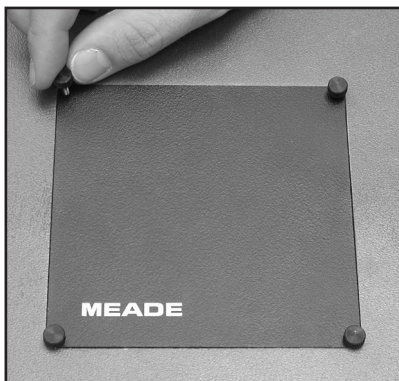

Fig. 37: Remove the four thumbscrews from the plate in the middle of the forks.
3. Unscrew and remove the four thumbscrews from the rectangular plate (Fig. 37) in the center of the fork base. Remove the plate. Note the DB-15 plug, StarLock harness, and focuser/12v wire harness under
10. Connect the DB-15 connector located at the base of the forkarm to the top of the drivebase. Tighten the two thumbscrews onto the connector to a firm feel. See Fig. 37 & 44.